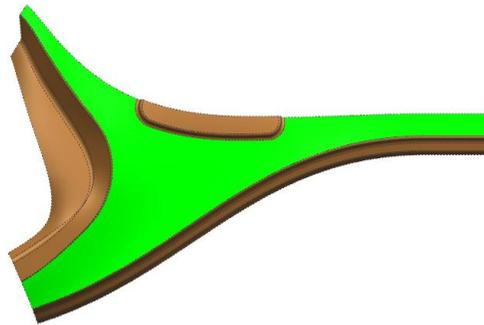

Figure P4–3
- Within **End Reinforcement** area as indicated in Figure P4–4: